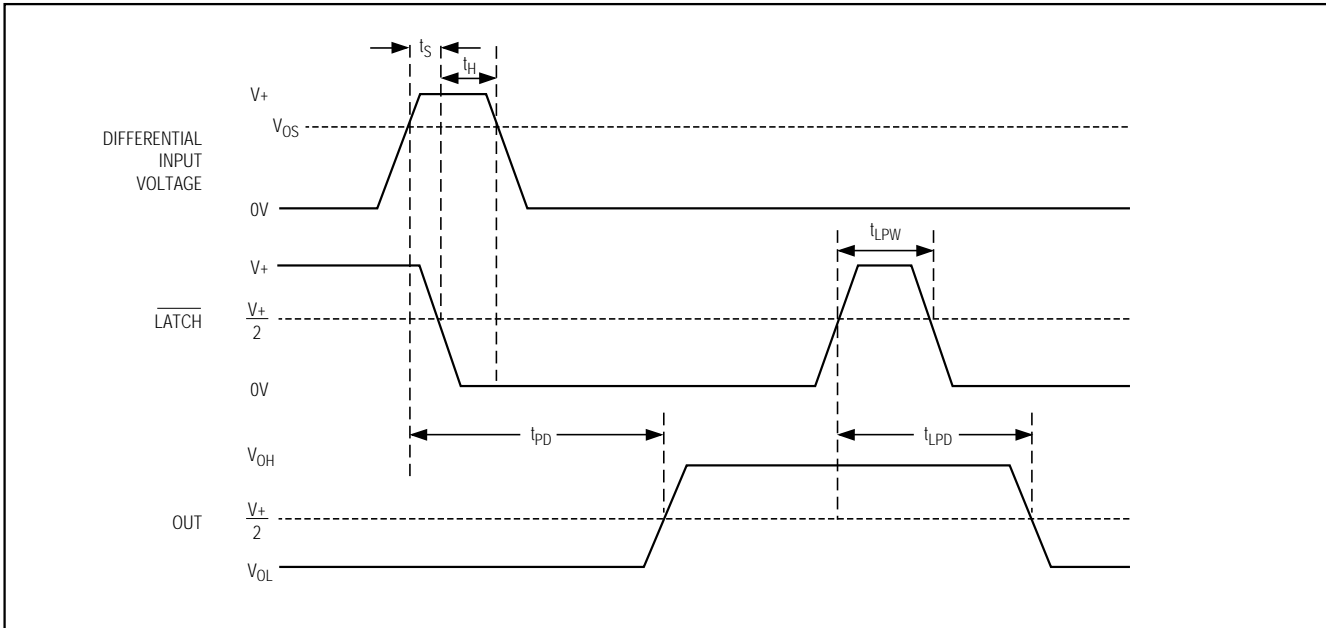

Figure 2. MAX941 Timing Diagram with Latch Operator
- Note 8:** Parameter is guaranteed by design and specified with VOD = 5mV and CLOAD = 15pF in parallel with 400μA of sink or source current. VOS is added to the overdrive voltage for low values of overdrive. See Figure 2.
- Note 12:** Applies to the MAX941 only. Comparator is active with LATCH pin driven high and is latched with LATCH pin driven low. See Figure 2.
The MAX941 includes an internal latch that allows storage of comparison results. The  $\overline{\text{LATCH}}$  pin has a high input impedance. If  $\overline{\text{LATCH}}$  is high, the latch is transparent (i.e., the comparator operates as though the latch is not present). The comparator's output state is stored when  $\overline{\text{LATCH}}$  is pulled low. All timing constraints must be met when using the latch function (Figure 2).